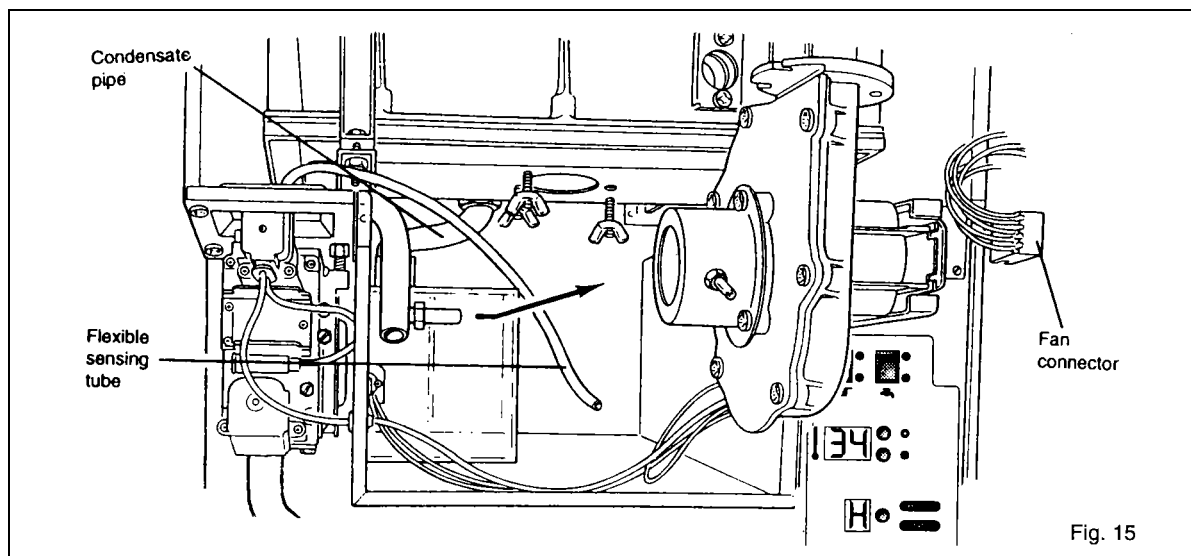

Fig. 15
- 1) Disconnect electrical connection from fan motor. FIG. 15.
- c) Disconnect flexible condensate pipe from the rear of the combustion chamber/sump casting. Fig. 15.